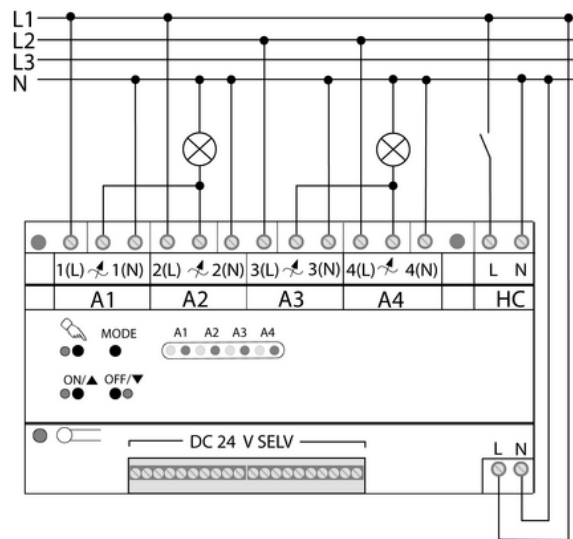

Figure 4: Connection example of load outputs switched in parallel
- Connect mains supply (9) as shown in the connection example (figure 4)
- Connect the hotel card switch as shown in the connection example (figure 4).